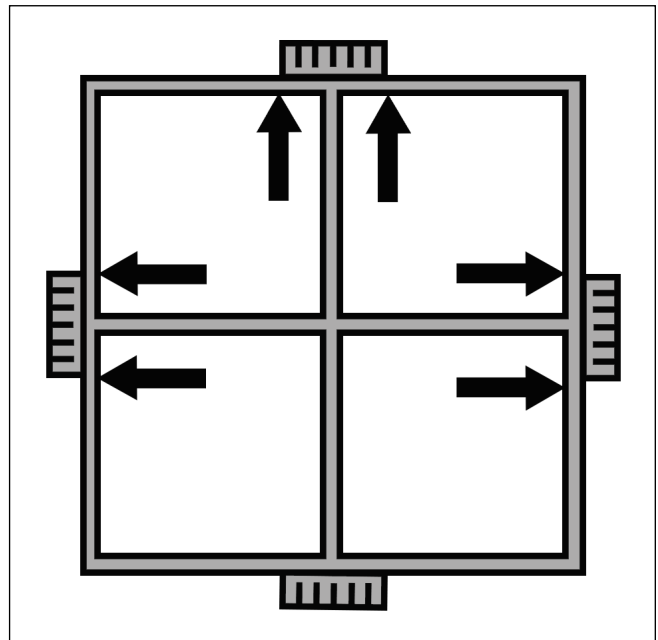

Figure 20
1. Additional screws are needed at all head jamb and jamb gussets, full or split. DO NOT DRILL THROUGH THE SILL. See Figure 20